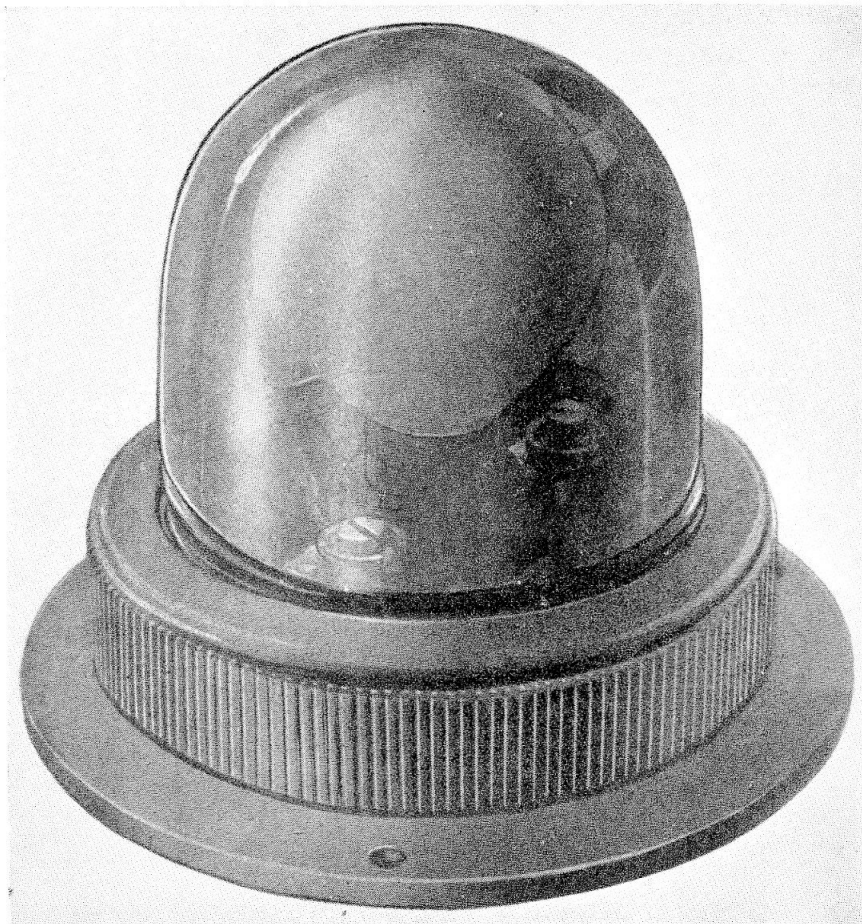

Fig. 1. Upward identification lamp, Type C
2. The lamp (Stores Ref. 5C/559), is illustrated in fig. 1 and 2. The overall height is $3\frac{1}{2}$ in. and the weight is approximately 6 oz. The body of the lamp consists of a moulded base of synthetic resin compound, in which a bayonet type lamp socket is formed. A well glass, held in position by a moulded bezel ring, bears on a rubber gasket which renders the assembly weather-proof.